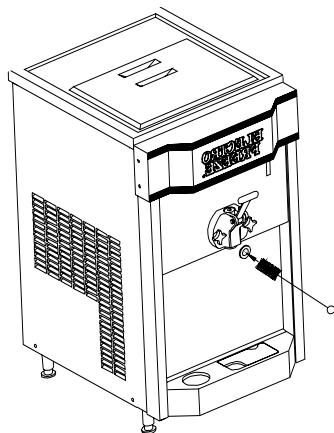

Figure 7-11 Brush drain tube
7. Brush the inside of the drain tube (figure 7-11).